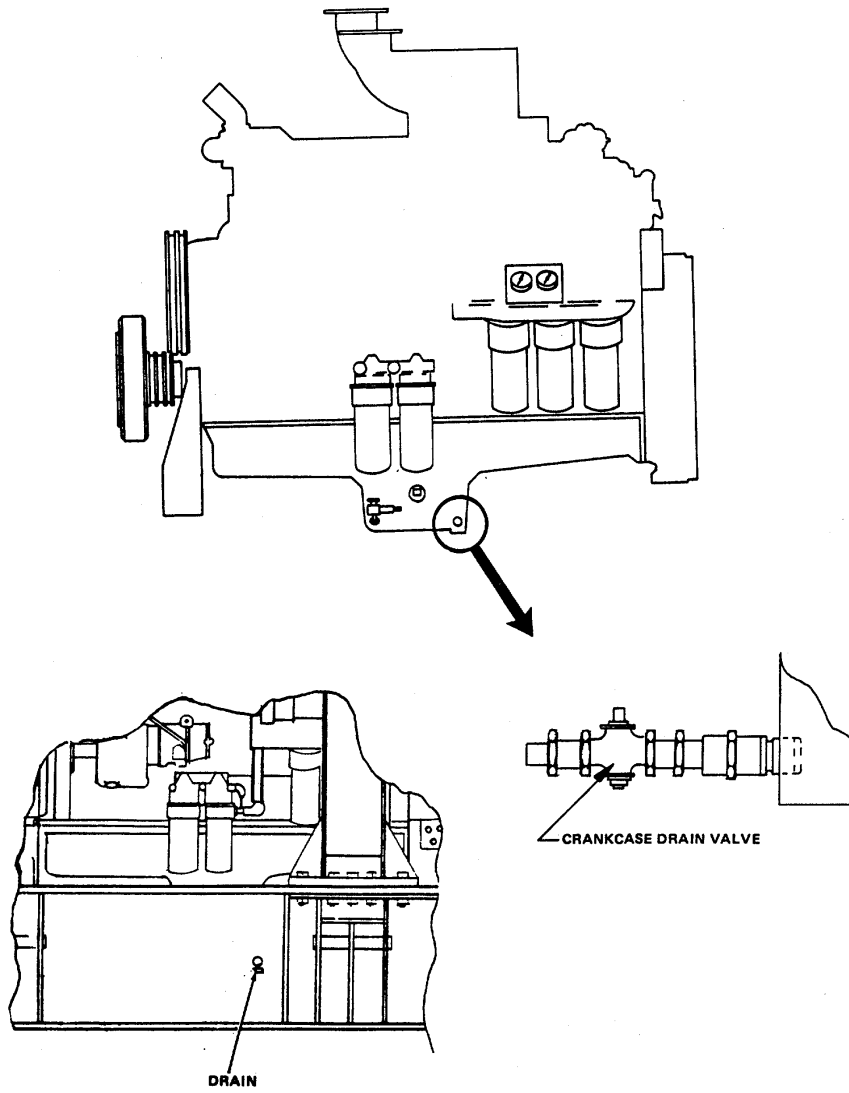

Figure 4-4. Location of Engine Crankcase
- (7) Make certain that the crankcase drain is closed (figure 4-4).